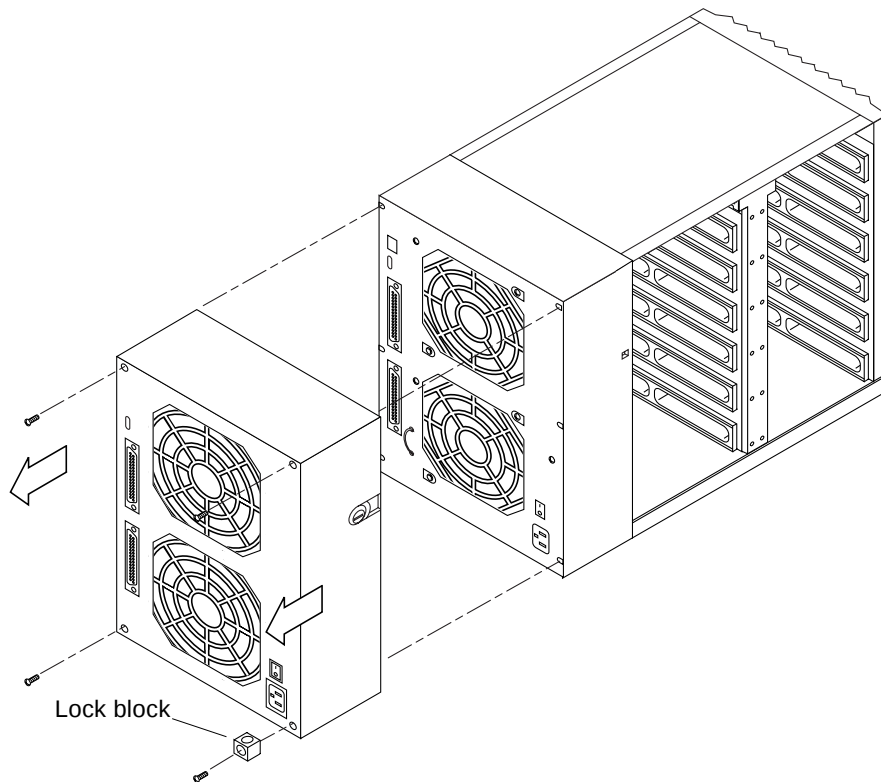

FIGURE 5-4 Removing and Replacing the Back Cover
4. Remove the lock block from the back cover (FIGURE 5-4).
5. Remove the three Phillips screws that secure the back cover to the unit (FIGURE 5-4).